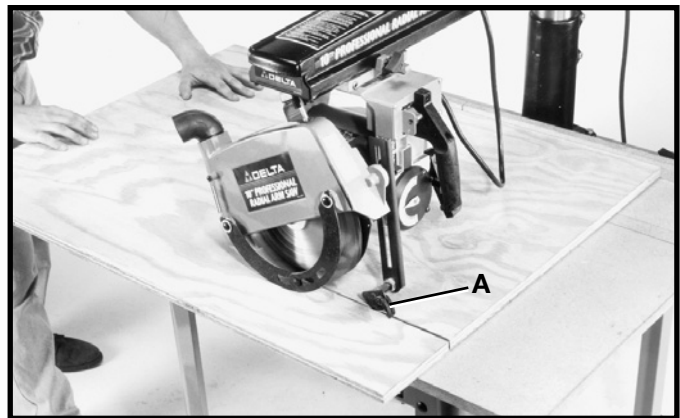
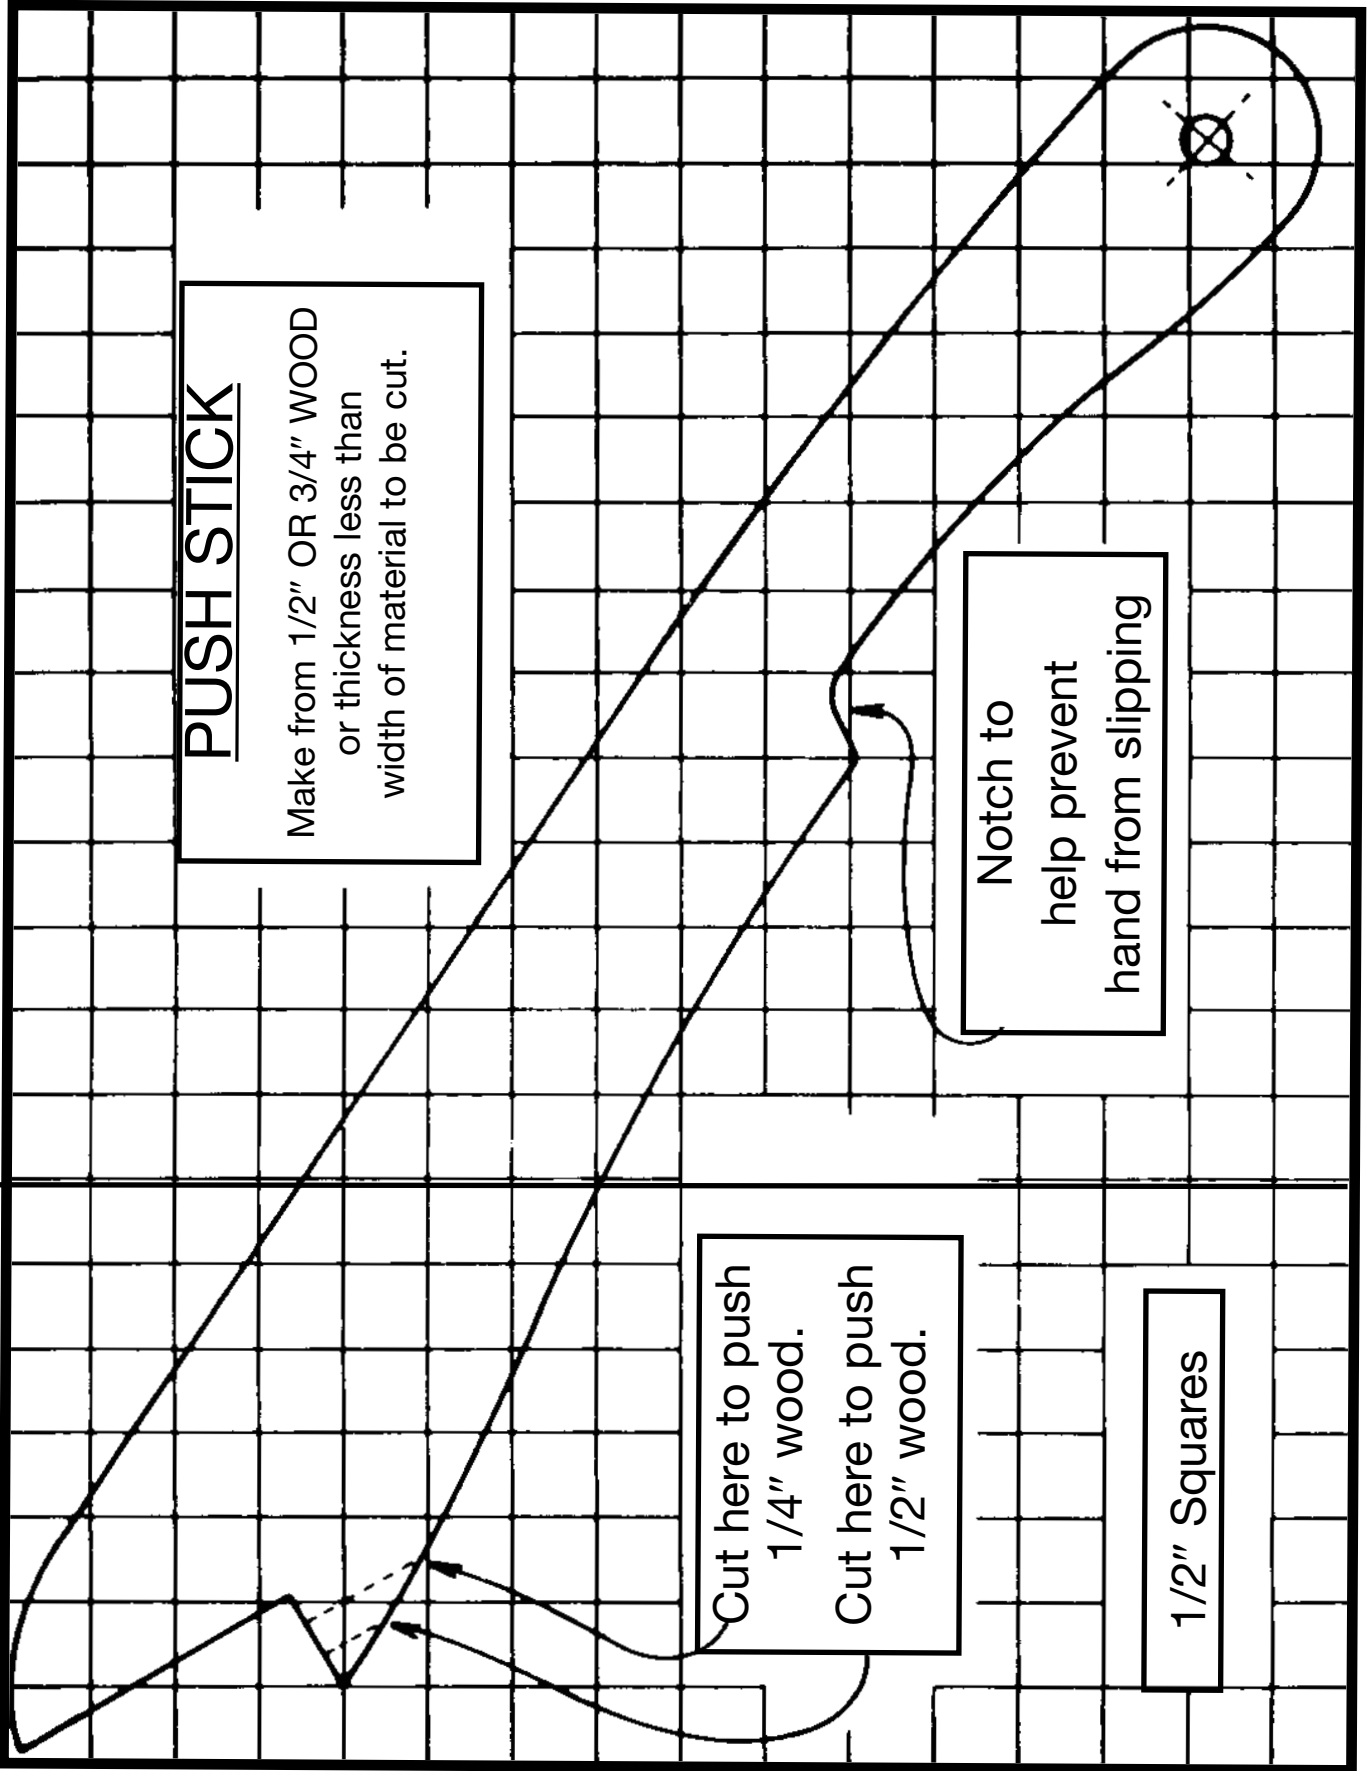

Fig. 56
Fig. 58
Ripping involves making a lengthwise cut through a board along the grain. When ripping, the track arm is clamped at "0" on the miter scale. The yoke is then positioned and clamped so that the blade is parallel to the fence. When feeding the material, one edge rides against the fence while the flat side of the board rests on the table. The guard should be lowered on the in-feed side until it almost touches the workpiece (Figs. 56 and 57), to act as a holddown. The splitter and anti-kickback fingers (A) Fig. 56 should be adjusted as described under the section "**ADJUSTING SPLITTER AND ANTI-KICKBACK FINGERS**" in this manual. The operators hands should always be well away from and to the side of the blade. When ripping narrow work, always use a push stick as shown in Fig. 58 to push the work between the fence and blade. The workpiece must have one straight edge to follow the fence. If board is bowed, place hollow side down. The cutting-head clamp knob should be securely tightened for all ripping operations.
Out-ripping involves all of the general conditions stated above. The yoke is clamped at right angle to the track arm with the blade guard facing the front of the machine. The cutting-head is positioned on the out-rip scale to the desired setting and clamped in position. The workpiece is fed from the left side of the saw. Fig. 56 shows a typical out-ripping operation on the radial saw.
⚠ WARNING WHEN RIPPING WORK LESS THAN FOUR INCHES WIDE, USE A PUSH STICK TO COMPLETE THE FEED. (FIG. 58)
When ripping work less than 4 inches wide, a push stick should be used to complete the feed and could easily be made from scrap material by following the pattern shown in Fig. 58.